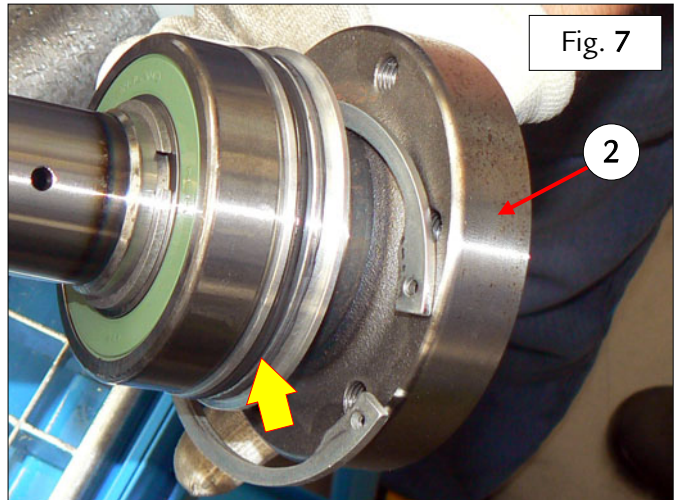

Fig. 7
- Ensure that the indicated O-ring is fitted correctly on the new front flange/shaft (2) – Fig. 7.
Fit the clamps indicated by the red arrows on the E-DIFF pipe (3), then tighten the respective screws – Fig. 7.
- Tighten the unions indicated by the yellow arrows to a torque of 8 Nm – Fig. 7.